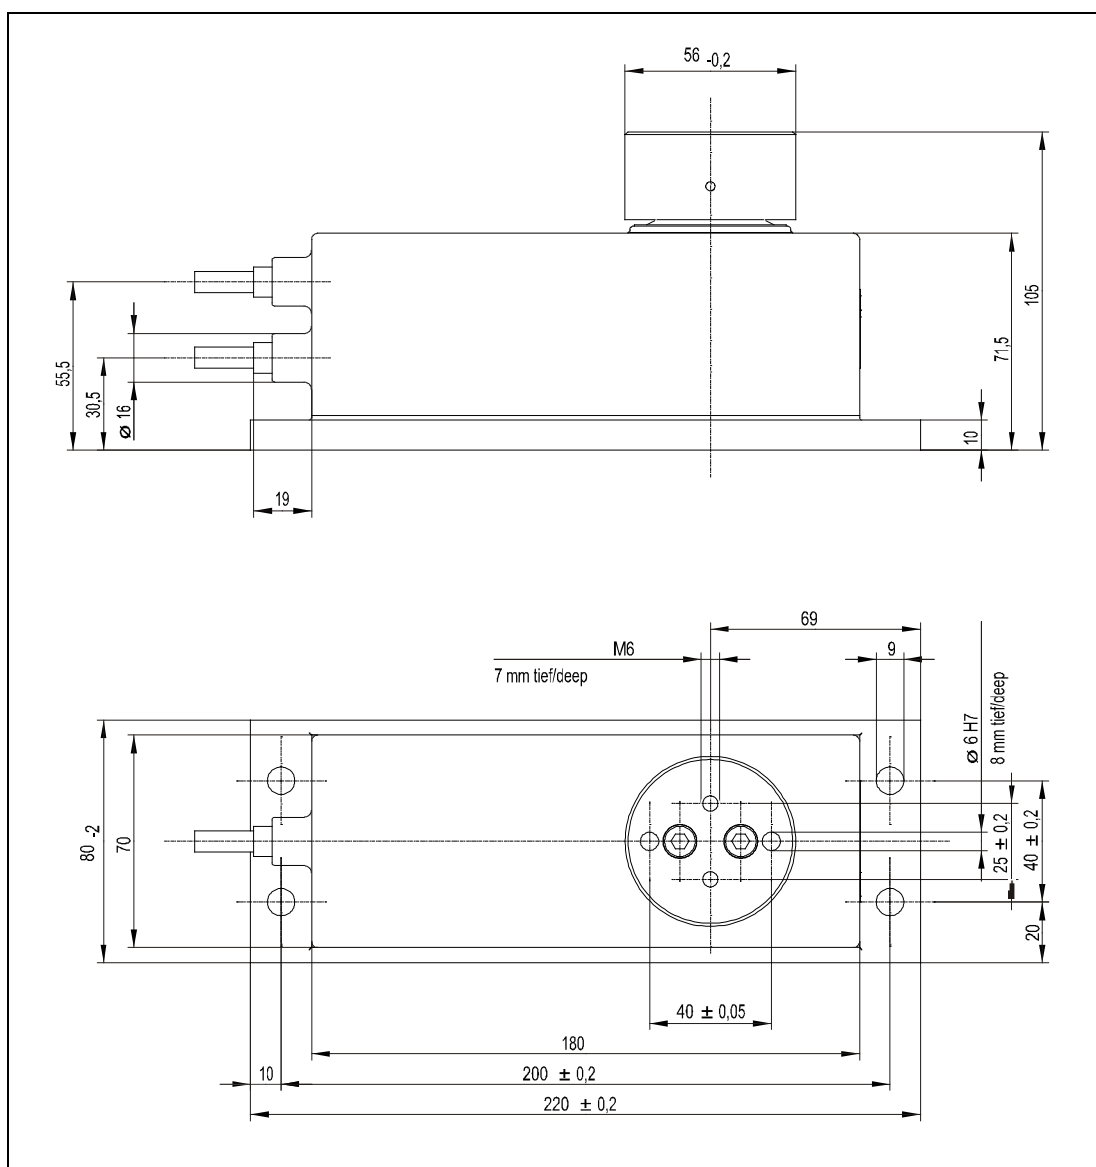

Fig. 5: Dimensions FIT[®]/1
The load cell in the model FIT[®]/1 is fully protected by a laser-welded stainless steel enclosure (Fig. 5), the seal between the load application part (1) and enclosure is ensured by a silicone membrane. The pressure compensation between the interior of the load cell and environment, which is necessary for function, is implemented via venting channels under the load application part. The load cell is designed for degree of protection IP55.